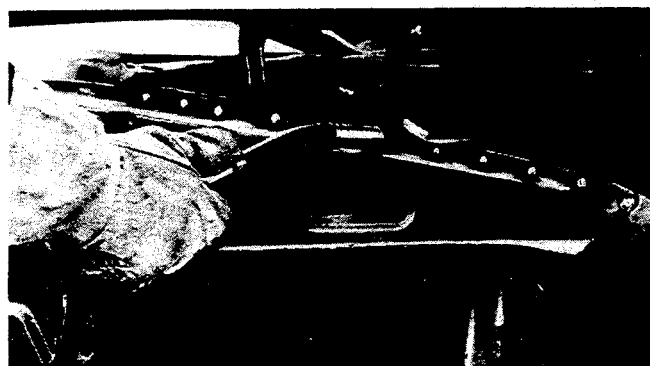

Figure 22
Spot/Plug welding is very useful on today's unitized body cars since welds can be made at the identical factory locations. (See Figure 22) Spot/Plug welds can be made through two different thicknesses of material. Whenever possible, the lighter gauge material should be welded to the heavier material. The two pieces must be in good contact with each other. The surface to be joined must be clean. Use scrap steel of the exact type to determine the heat and wire speed setting before spot welding the intended work.
7. Hold the nozzle perpendicular to the work with the nozzle resting on the work; if you are welding into a punched hole, aim the wire at the center of the hole. See Figure 22